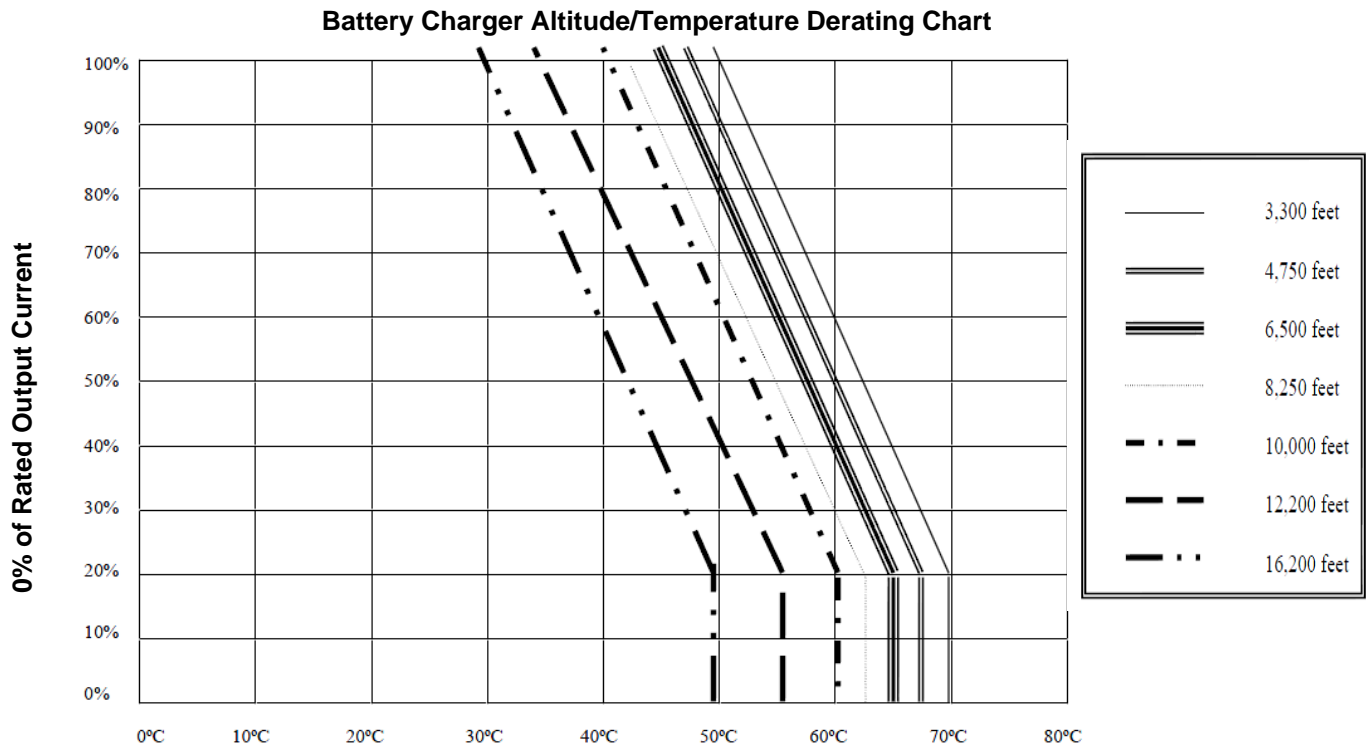

Fig 2 - Typical Temperature/Altitude De-rating Chart
- **Temperature Correction & Altitude Correction**, the factors related to these items require more than basic consideration. In many cases the actual correlation is such that you can de-rate the charger by application rather than performance. For example, as you increase altitude the ambient temperature could be lower. Since that is interrelated you could have a charger in an application at 10,000 feet but the highest ambient might be only 40 deg C rather 50 deg C to still allow for 100% of rated output. (See Figure 2) In this case there would be no reason to select a larger charger to accommodate this environment, since the existing charger could meet the new environmental situation. It is imperative that you consult a charger manufacturers de-rating chart to determine actual charger performance.